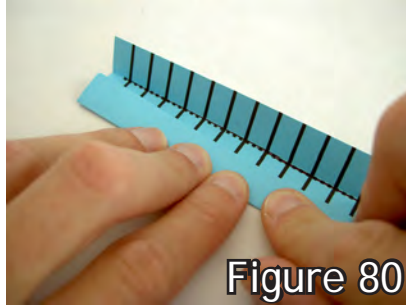

Figure 80
2. Fold along the dotted lines to make sharp creases. (fig. 80)